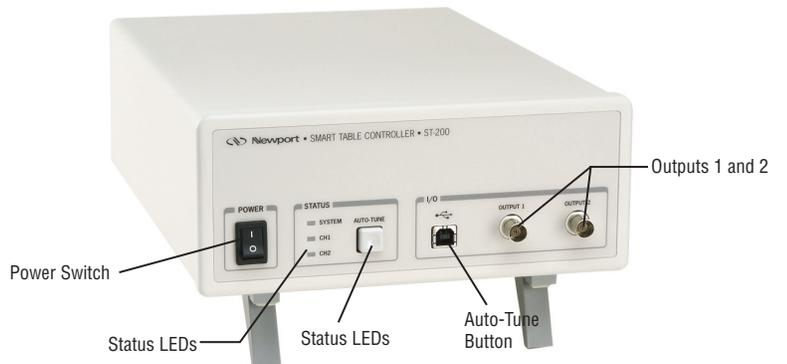

Figure 4: ST-200 Controller
10. Power the system up by depressing the power button (See figure 4 for button locations).